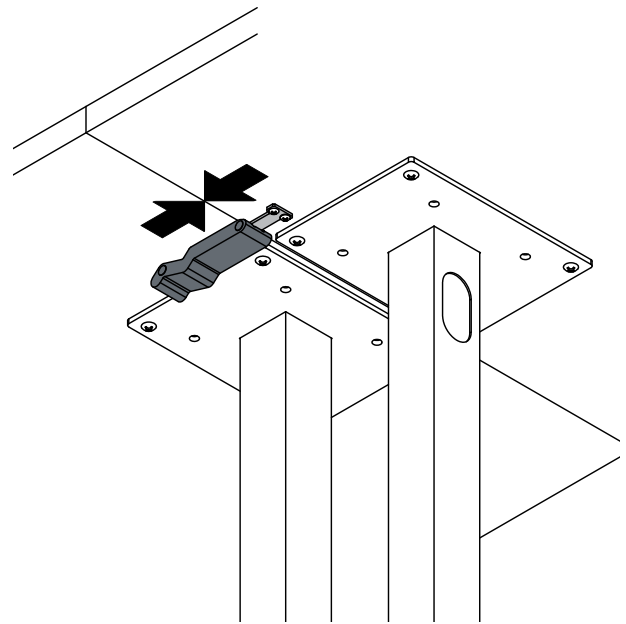

Figure 6.2
3. Attach keeper #1 to table #1 with (2) #8 x 3/4" PHSM screws.
4. Attach keeper #2 to table #2 with (2) #8 x 3/4" PHSM screws.
6. Close and lock latch to secure tables together. **Figure 6.2.**